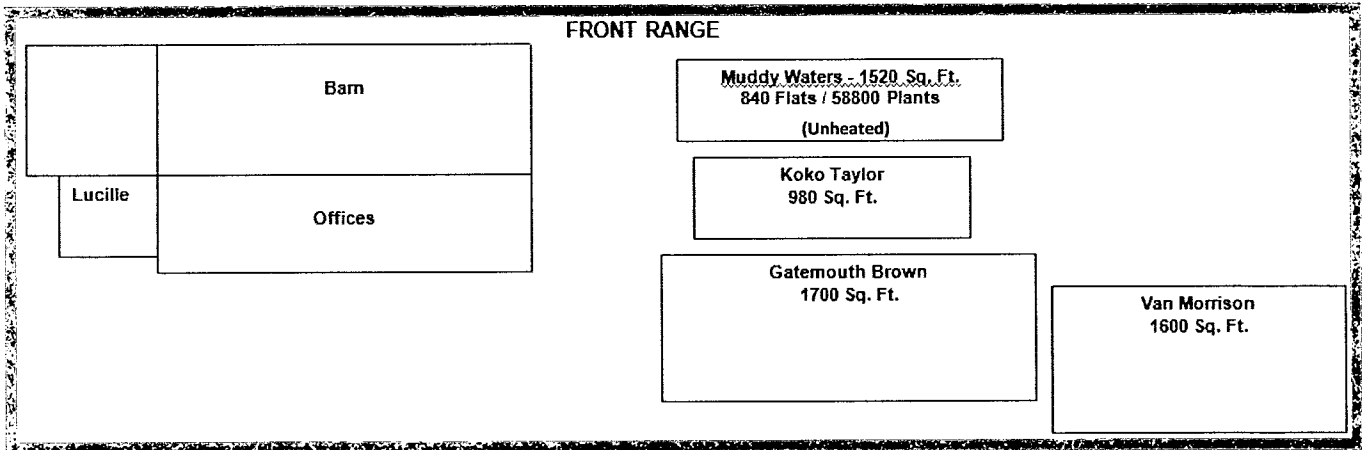

Figure 1 - Layout of Barn and Heated Greenhouses
- Four greenhouses with heat for propagation and overwintering of tender plants (Figure 1):
We also have another solar well that fills a 1,500 gallon reservoir that provides water to an AC powered pressure pump. This system provides irrigation water to the barn and greenhouses shown in Figure 1.